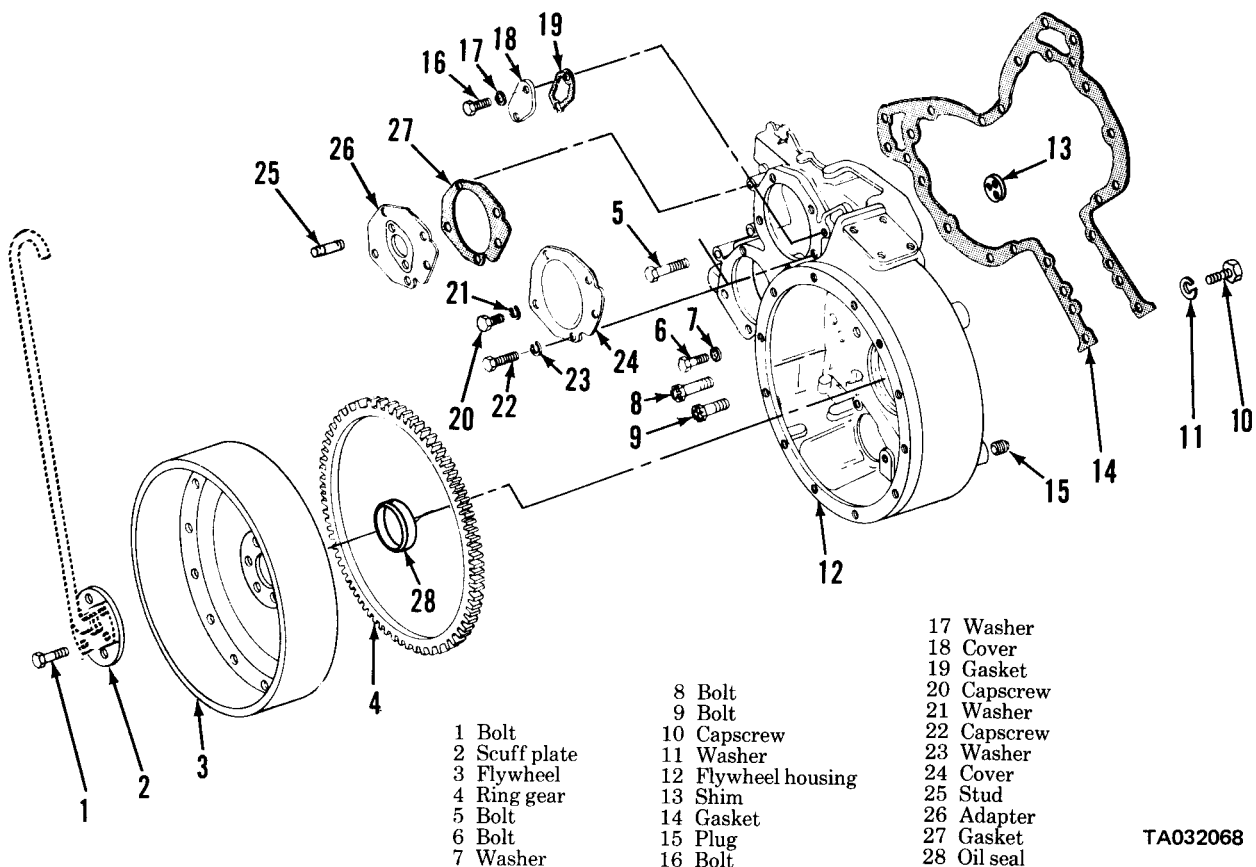

Figure 3-101. Flywheel and flywheel housing, removal, disassembly, reassembly, and installation.
- (2) Remove flywheel attaching bolts (1, fig. 3-101), and scruff plate (2) while holding flywheel (3) in position by hand then reinstall one bolt (1).
- (3) Attach flywheel lifting tool to flywheel with two $\frac{3}{8}$ inch-16 bolts of suitable length.
(1) If the ring gear (4, fig. 3-101) requires replacement, support the flywheel, crankshaft side down, on a solid flat surface on a hardwood block, which is slightly smaller than the inside diameter of the ring gear.
(1) Install the flywheel (fig. 3-101) aligning holes
- (1) Remove the engine (para 2-5).
- (2) Remove the oil pan (para 3-26).
- (3) Remove the flywheel (para 3-32).
- (4) Remove the fuel pump (TM 10-3930-634-12).
- (5) Remove the engine driven hydraulic pump (TM 10-3930-634-12).
- (6) Remove the limiting speed governor (para 3-20).
- (7) Remove the fuel and hydraulic pump drive (TM 10-3930-634-12).
- (8) Remove the breather (TM 10-3930-634-12).
- (9) Thread eyebolts into tapped holes in pads on top or sides of flywheel housing. Attach a suitable sling and chain hoist to the eyebolts.
- (10) Remove three bolts (5, fig. 3-101).
- (11) Remove one bolt (6) and washer (7).
- (12) Remove two bolts (8) and four bolts (9).
- (13) Remove five screws (10) and washers (11).
- (14) Thread two pilot studs in the holes located about the center of the crankshaft, from which screws were removed.
(15) Make sure the flywheel housing is supported adequately with a sling and hoists.
(16) Strike the front face of the flywheel housing (12) alternately on each side of the engine with a soft hammer to loosen and work it off dowel pins.
(17) Remove shim (13) and gasket (14).
(1) Disassemble the flywheel housing in numerical sequence as shown in figure 3-101.
(2) Drive oil seal (28, fig. 3-101) from housing (12) with a suitable drift.
(3) Reassemble the flywheel housing in reverse numerical sequence shown in figure 3-101.
(2) Install new gasket (14, fig 3-101) on the rear face of the cylinder block end plate.
(3) Install shim (13) on the left side of the engine. Use grease to hold shim in place until the flywheel housing is installed.
(4) Coat the lip of the crankshaft seal (28) lightly with grease. Do not scratch or nick the sealing edge of the seal.